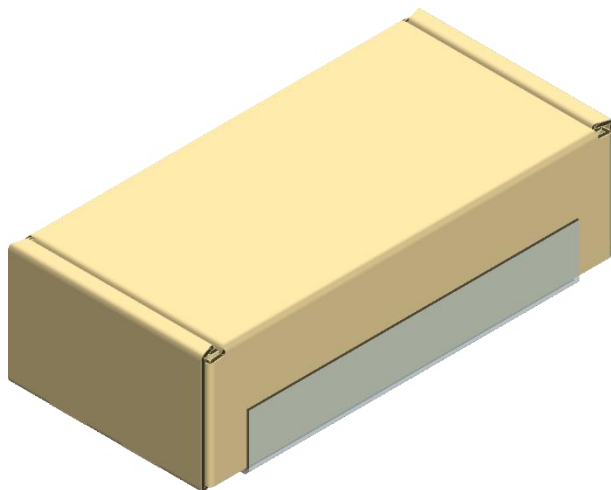

Figure 3: Closure of RTF box
- **RTF** (Roll End Tuck Front) See Figure 3